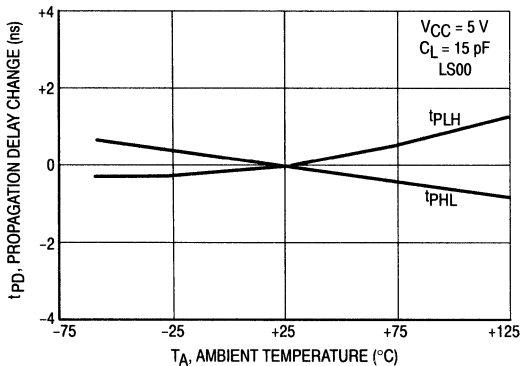

Figure 2-9
**AC SWITCHING CHARACTERISTICS.** The propagation through a logic element depends on power supply voltage, ambient temperature, and output load. The effect of each of these parameters on ac propagation is shown in Figures 2-9 through 2-11.